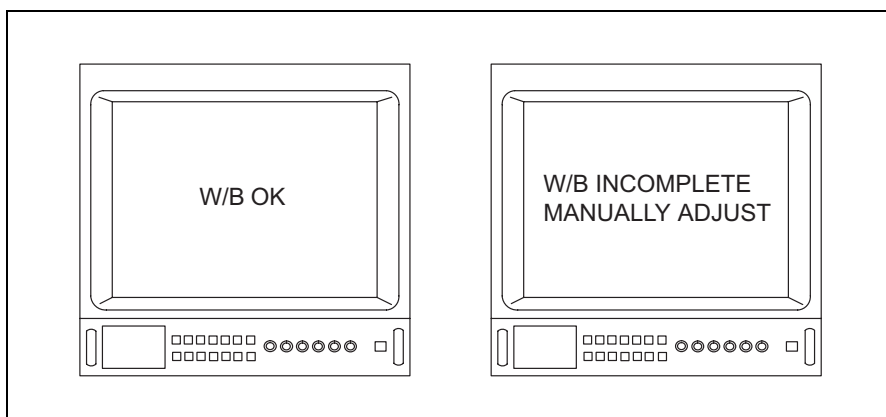

Figure 5.20
2. When the white balance indicator lights (after approximately 4 seconds), white balance adjustment has been completed. If the indicator blinks once and then goes out, the color or brightness of the image was not sufficient. Color adjustment can also be confirmed by viewing the image on the video monitor. If color adjustment has been successfully performed, "W/B OK" will be displayed on the video monitor. If readjustment is required, "W/B INCOMPLETE MANUALLY ADJUST" will be displayed (see Figure 5.20).